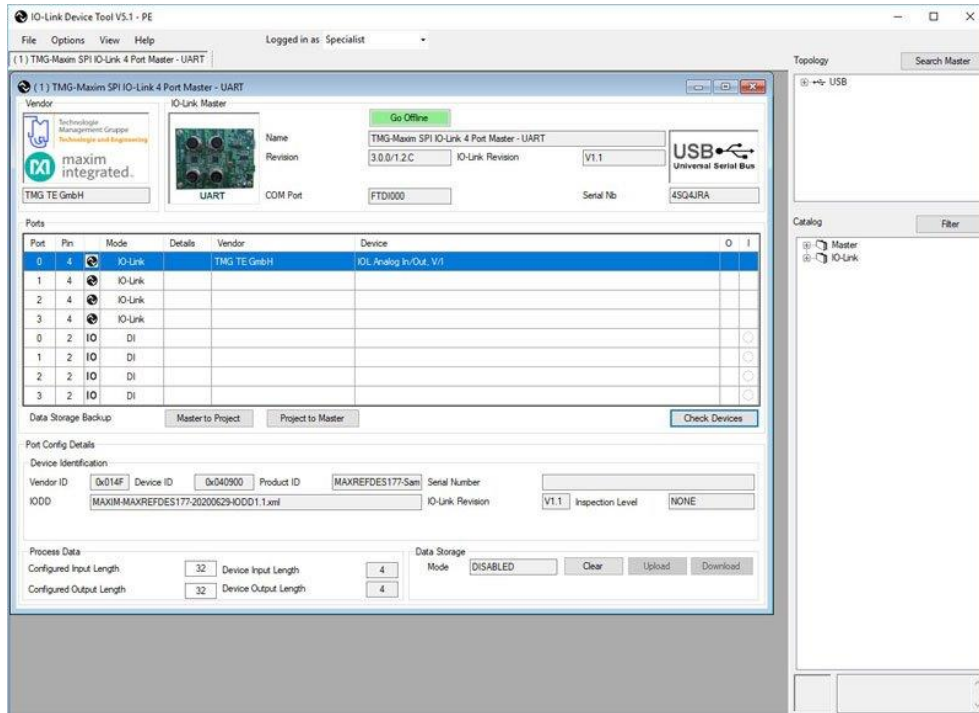

Figure 7. MAXREFDES177# sensor connected to the master.
7. The Go Offline button is green. The software tool shows that the device is MAXREFDES177# and the IODD vendor is TMG TE GmbH (**Figure 7**).